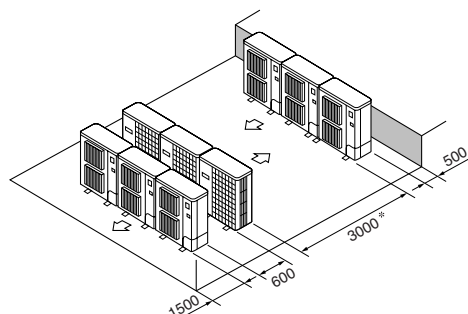

Fig. 2-13
⑥ Multiple parallel unit arrangement (Fig. 2-13)